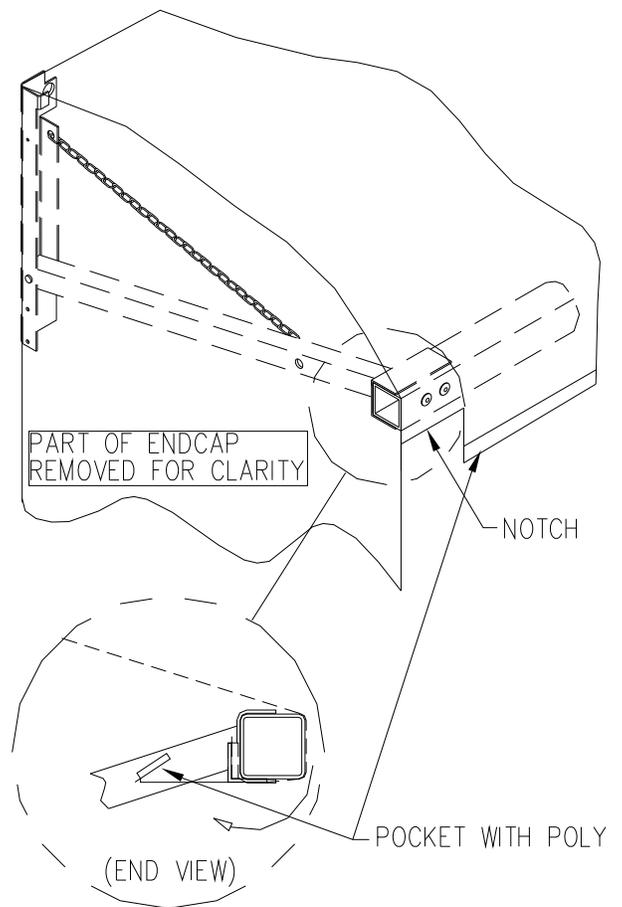

FIGURE 13
- Wrap the canopy cover front bar pocket with the poly strip inside, down and around the bottom of the front bar. The pocket/poly will wrap back up the back inside face of the front bar and tuck behind the steel angle welded at back. The pocket is notched to fit around the side arm bracket and the edge of the pocket should line up with the edge of the steel angle on both ends about 1/2" away from the side arm bracket. Make sure that the pocket/poly strip combination gets seated all the way down in the space between angle and front bar. (See Figure 13)